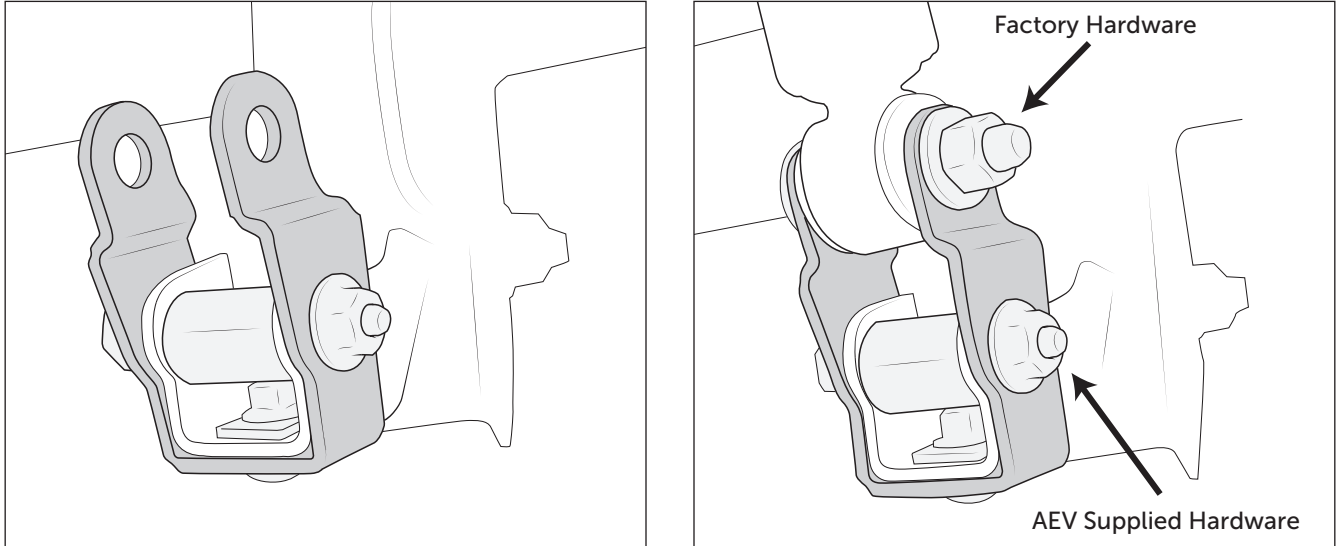

Figure 7
10. Install the AEV Shock Extension brackets as shown. Feed M10 button head with washer through the bottom of the bracket. Place square washer inside the factory shock bracket and install nut. Re-install lower shock hardware (fig. 7). You may need to pull the shock body downward to reach the shock bracket. This is normal due to internal shock bumpers.